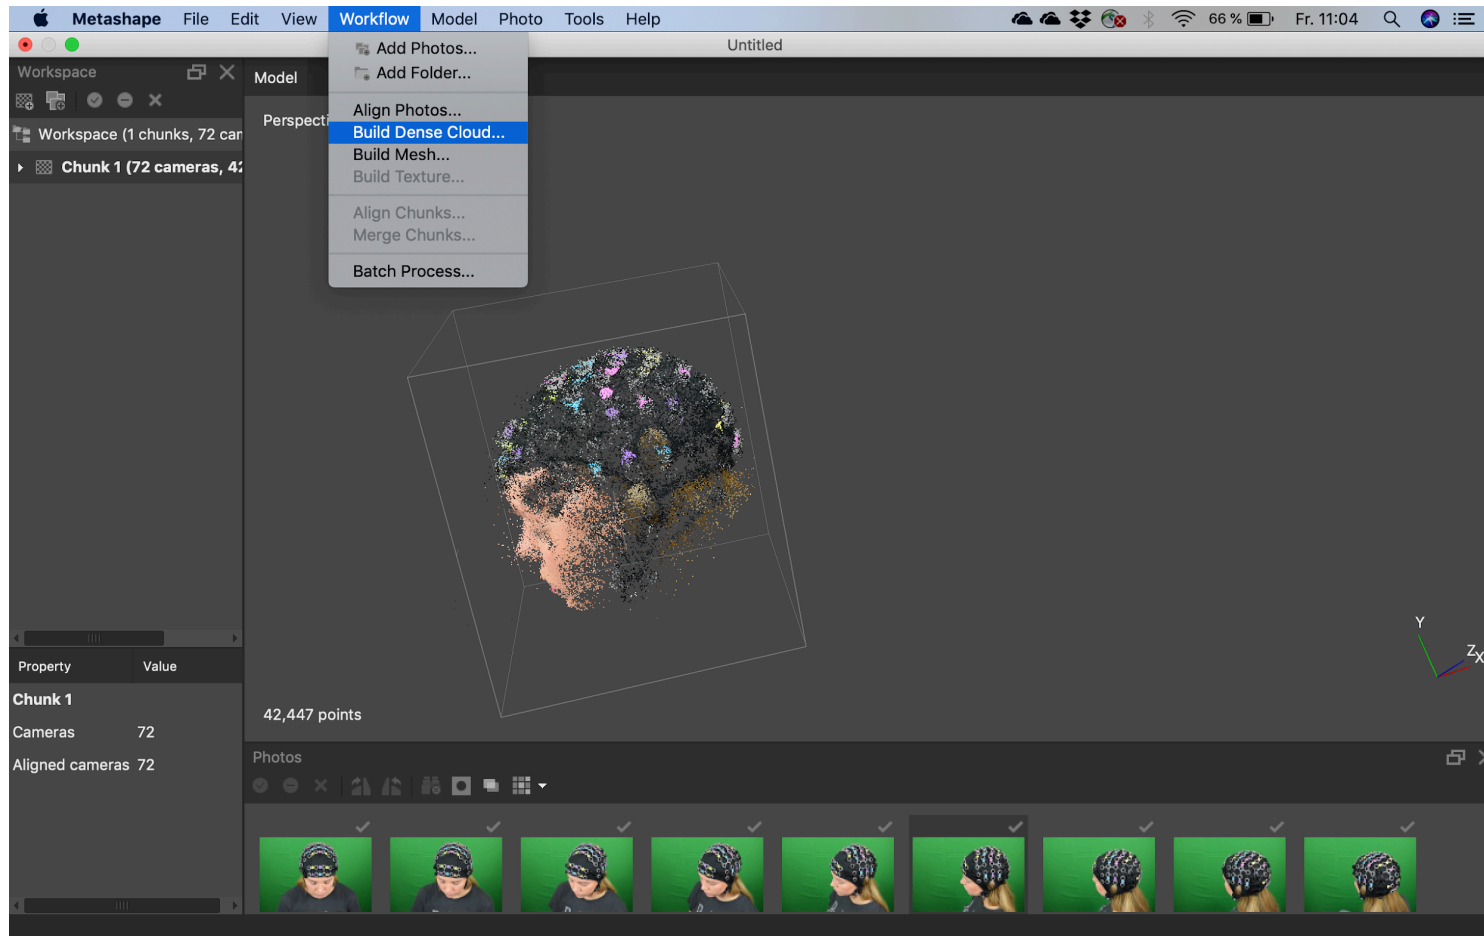

Figure 20. Building dense cloud in Metashape
7. Build the dense cloud (Figure 20) with the following **settings**: quality = high, depth filtering = mild, calculate point colours).